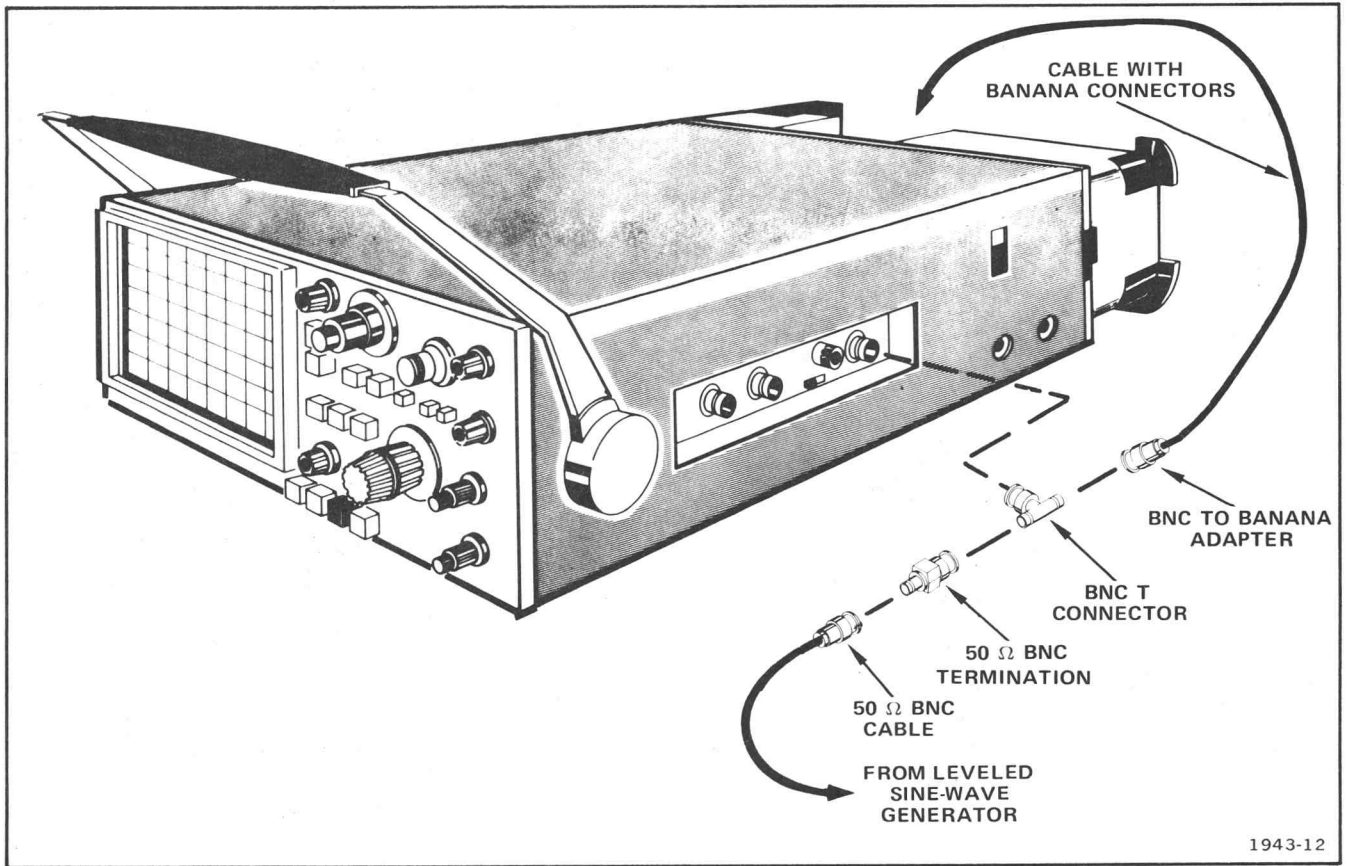

Fig 5-12
- a. Connect test equipment to EXT TRIG or HORIZ INPUT connector and EXT BLANK connector as shown in Fig. 5-12.